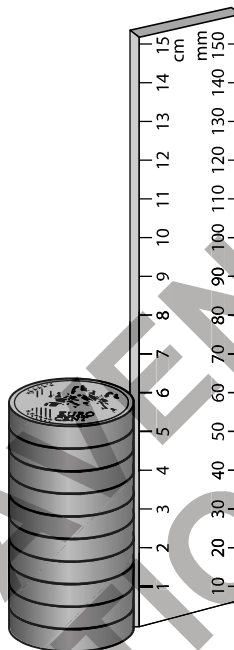

Figure 1.7
- 1 Make a neat stack of 10 coins, as shown in Figure 1.7.